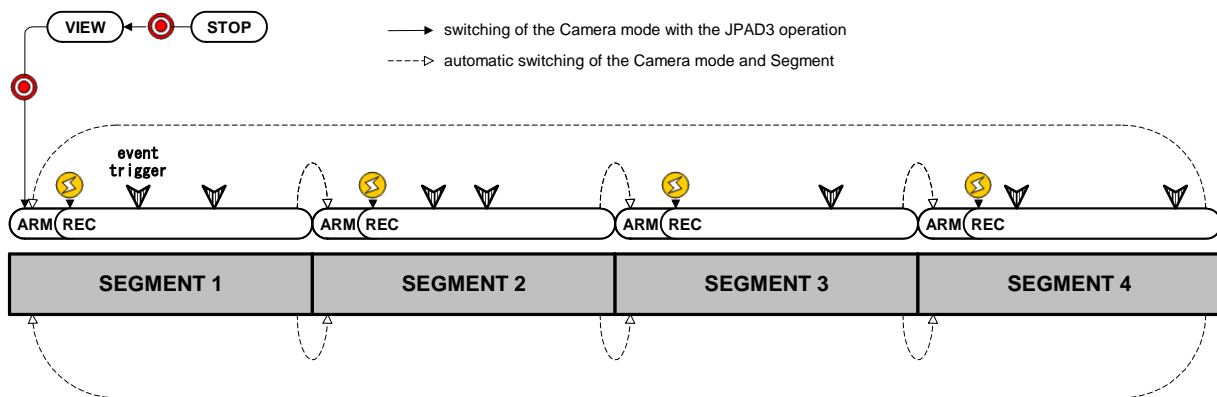

Figure 3-44 Event Recording (EVENT(L), Number of Segments: 4)
Figure 3-44 shows how to switch modes with the J-PAD3 during EVENT(L) recording (top of the figure) and saving in the memory (bottom of the figure). EVENT(L) is event recording in the LOOP mode.